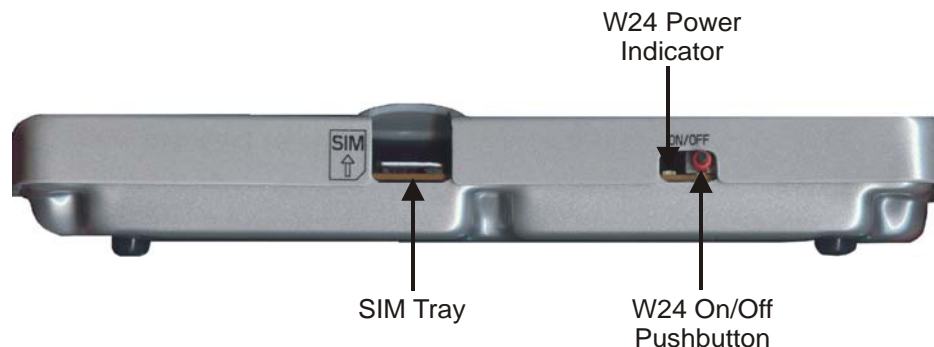

Figure 2-5: W24 On/Off Pushbutton and Power Indicator LED
2. Turn on the W24 power by pressing the On/Off pushbutton (S110) for at least 0.5 seconds (Figure 2-5).